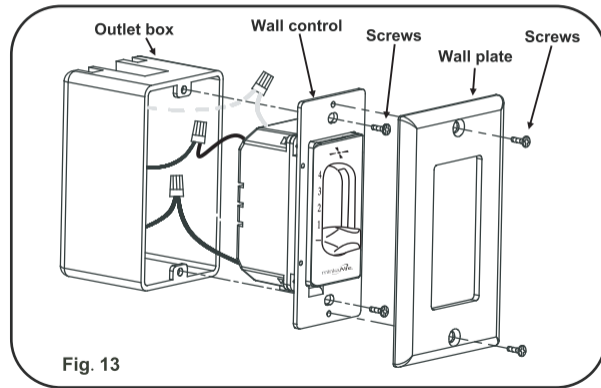

Fig. 13
1. (Fig. 13) Carefully tuck the wire connections inside the outlet box. Secure the wall control with the two screws provided.